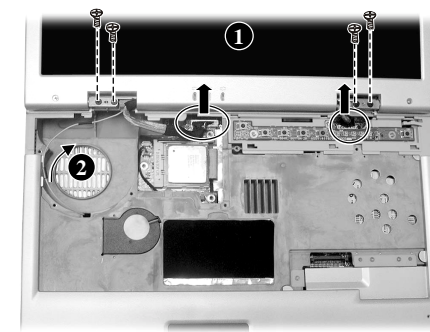

Figure 2-19 Remove the LCD Assy
3. Disconnect the LCD cables from the system board, and remove four screws of the hinges (❶). Now Pull out the antenna from the compartment (❷). (Figure 2-19)